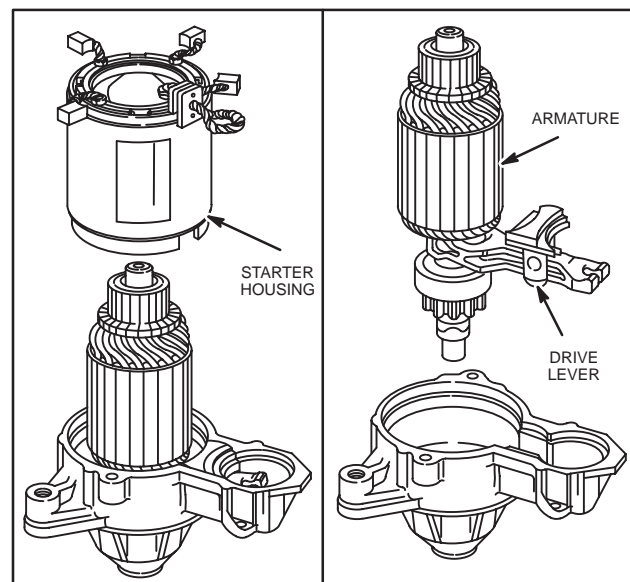

Fig. 62 – Removing Housing And Armature
8. Remove armature and drive lever, Fig. 62.